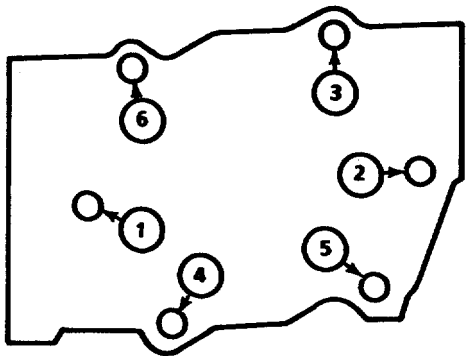

FIGURE 2-58. Cylinder Head Tightening Sequence.
- e. Install six flat washers (1) and hexagon head capscrews (2).
- f. Start capscrews (2) through the cylinder heads into the block by hand, engaging two or more threads.
- g. Tighten the capscrews (2) in the sequence as shown (FIG. 2-58) to the torque values as listed in Table 2-6.
- (1) Intake manifold, paragraph 2-32.
- (2) Rocker lever housing assembly and cover, paragraph 2-30.
- (3) Tighten fuel and exhaust manifolds, paragraphs 3-20 and 2-33.